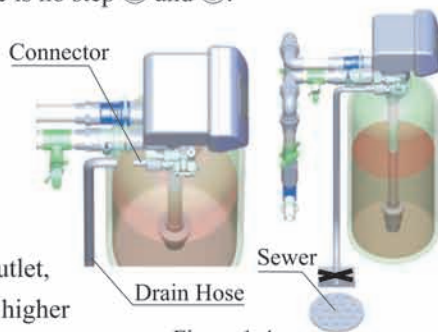

Figure 1-4
⑤ Install drain pipeline
a. As the Figure 1-4 shows, slide the drain hose connector into drain outlet.
b. Locate the drain hose well as the Figure 1-4 show.
● Be sure not to connect drain with sewer, and leave a certain space between them, avoid waste water being absorbed to the water treatment equipment, such as showed in the Figure1-4.